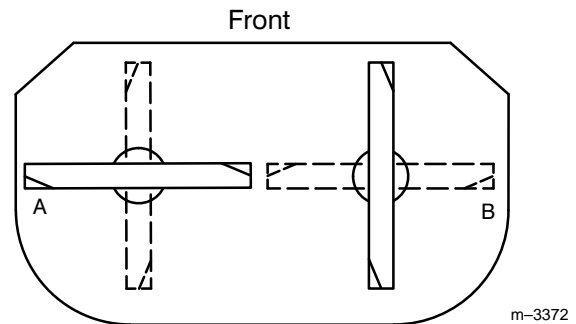
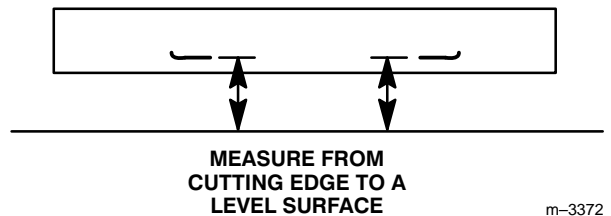

Figure 28
Figure 29
2. Position the blades side-to-side (Fig. 28). Measure at "A" and "B" locations (Fig. 28) from a level surface to the cutting edge of blade tips (Fig. 29).